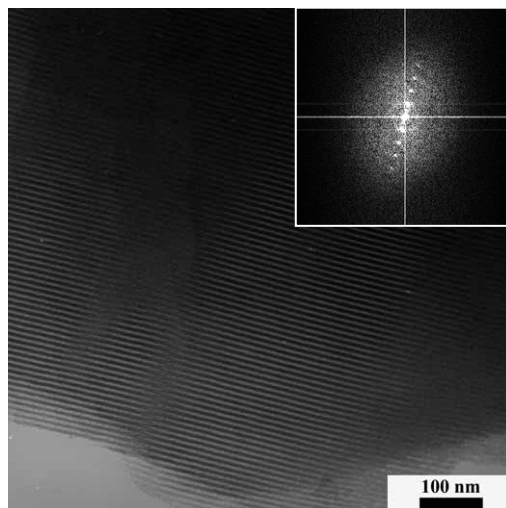

Figure S3: TEM image of the 2D hexagonal mesoporous silica thin film before calcination. The corresponding FFT diffractogram is shown in the inset.
In Figure 3a, the XRD patterns of the 2D hexagonal mesostructured silica films before calcination show two peaks with d-spacing of 9.8 and 5.0 nm. If we assume the d-spacing of the first peak as the (10) diffraction of the 2D hexagonal structure with the mesochannels parallel to the substrate, the value of 9.8 nm corresponds well to the value of 9.6 nm derived from the TEM image in Figure S3.